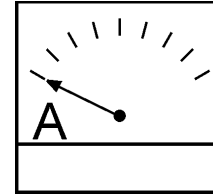

Figure 47. Ammeter (No Load)
- The ammeter (Figure 47) will indicate **zero amps** with no load applied. When a load is applied, the ammeter will indicate the amount of current that the load is drawing from the generator.